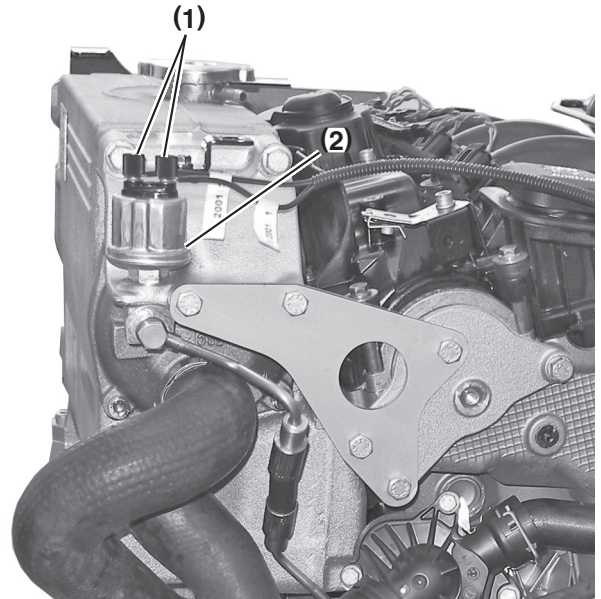

Figure 12-35
1. Disconnect wires (**Figure 12-35, (1)**).
2. Remove oil pressure sensor (**Figure 12-35, (2)**) from heat exchanger bracket.